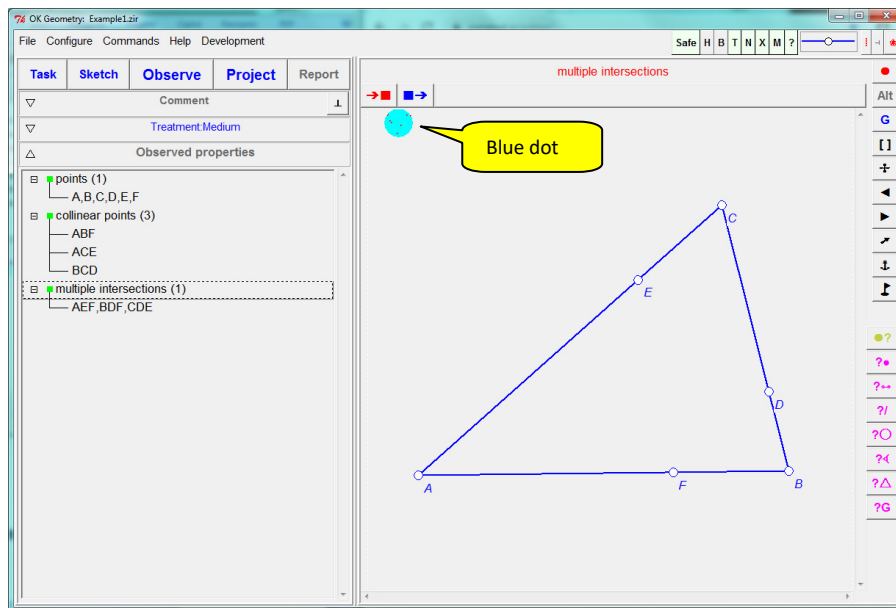

Figure 15
The blue dot on the left upper corner of the displayed construction (Figure 15) serves as an indicator as well as a switch between the exact and the perturbed visualisation. When in exact mode, the blue dot
- Click the button **Observe**. The list of detected properties of the considered construction appears in the left pane in the Properties section (see Figure 15).